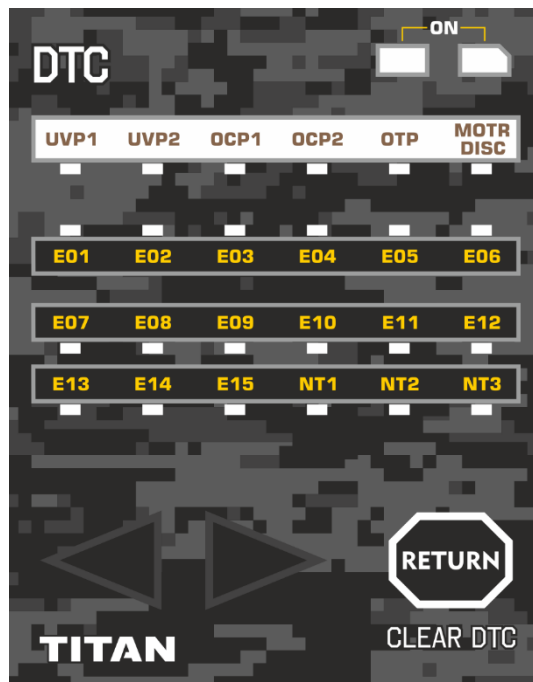

Fig.6
- **DTC** – display with trouble codes (Fig.6).
- When the icons **A** and **B** are ON, the **Diagnostic Trouble Codes display** is activated. Check settings only on the DTC display's cover of the TPC (Fig.6).